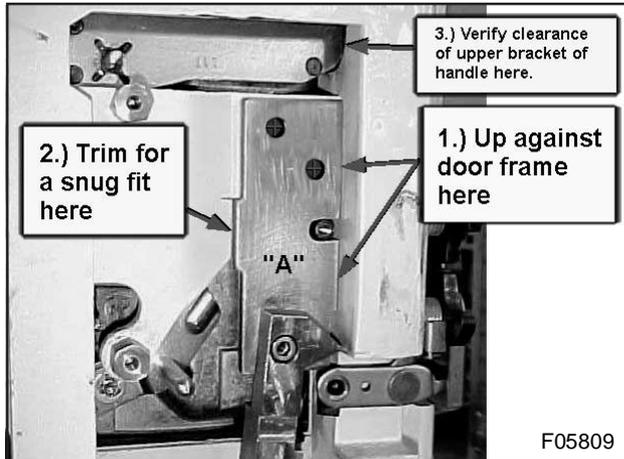

Figure 23: Adapter A installation check
- 2) Weld the piece of flat stock square, and below the scribe mark on adapter linkage A. Position adapter linkage A again. Using a file, trim the piece of flat stock as necessary, until the adapter fits snugly (see Figure 23). Mark the two adapter holes on the mounting plate with a scribe. Also verify the clearance of the upper bracket of the outside housing assembly as shown.